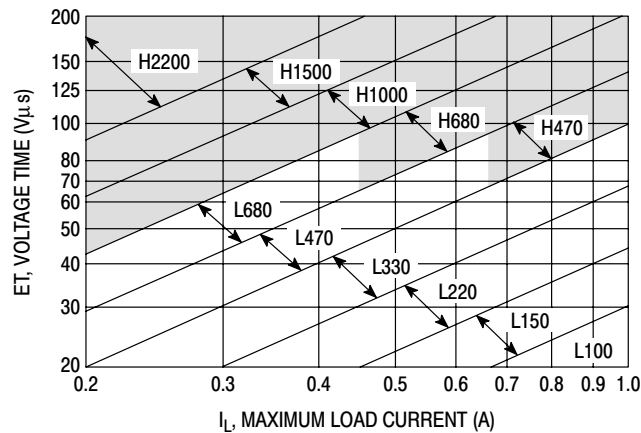

Figure 21. LM2575-Adj
4. Inductor Selection (L1) A. Use the following formula to calculate the inductor Volt x microsecond [V x μs] constant: $E \times T = (V_{in} - V_{out}) \frac{V_{out}}{V_{on}} \times \frac{10^6}{F[\text{Hz}]} \text{ [V x } \mu\text{s]}$ B. Match the calculated E x T value with the corresponding number on the vertical axis of the Inductor Value Selection Guide shown in Figure 21. This E x T constant is a measure of the energy handling capability of an inductor and is dependent upon the type of core, the core area, the number of turns, and the duty cycle. C. Next step is to identify the inductance region intersected by the E x T value and the maximum load current value on the horizontal axis shown in Figure 21. D. From the inductor code, identify the inductor value. Then select an appropriate inductor from the Table 1 or Table 2. The inductor chosen must be rated for a switching frequency of 52 kHz and for a current rating of $1.15 \times I_{load}$. The inductor current rating can also be determined by calculating the inductor peak current: $I_{p(\text{max})} = I_{\text{Load}(\text{max})} + \frac{(V_{in} - V_{out}) t_{on}}{2L}$ where t_{on} is the "on" time of the power switch and $t_{on} = \frac{V_{out}}{V_{in}} \times \frac{1}{f_{osc}}$ For additional information about the inductor, see the inductor section in the "External Components" section of this data sheet.	4. Inductor Selection (L1) A. Calculate E x T [V x μs] constant: $E \times T = (12 - 8.0) \times \frac{8.0}{12} \times \frac{1000}{52} = 51 \text{ [V x } \mu\text{s]}$ B. E x T = 51 [V x μs] C. $I_{\text{Load}(\text{max})} = 1.0 \text{ A}$ Inductance Region = L220 D. Proper inductor value = 220 μH Choose the inductor from the Table 1 or Table 2.